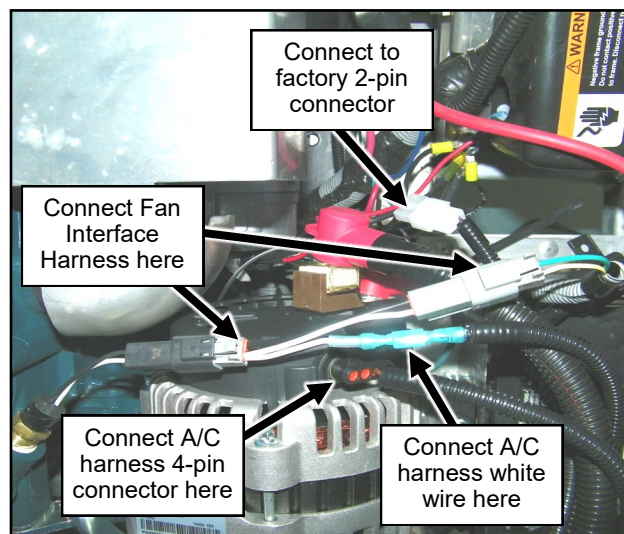

Fig. 5.6 (A/C Power Harness)
- 5.6** Per Figure 5.6, connect the fan interface harness in-line between the factory coolant temperature sensor and harness that was disconnected in step 1.6.